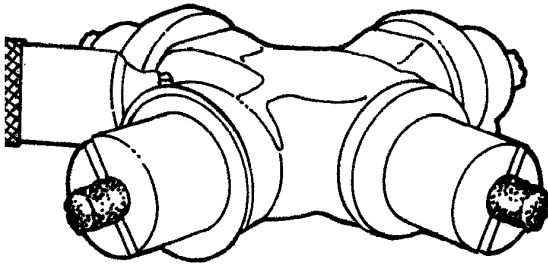

Figure 18 Pack Cross Journal Cavities With Grease Before Assembly
1. Pack the cross journal cavities with grease before assembly using a grease gun at the lubrication fitting (Figure 18).